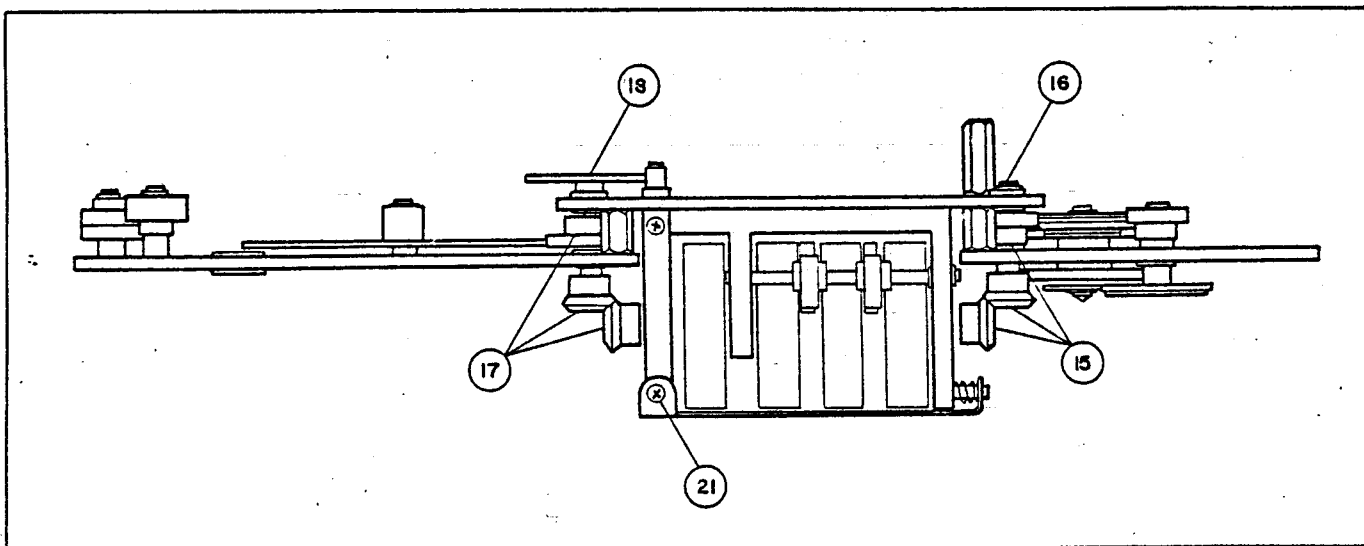

Figure 3-7. R-F and I-F Tuner Assembly, Front Plate, Top View
- a. Loosen six setscrews (item 15, figure 3-7).
- b. Remove shaft (item 16, figure 3-7).
- c. Loosen six setscrews (item 17, figure 3-7).
- d. Remove shaft of cam (item 18, figure 3-7 and 3-9).
### 3-17. REPLACEMENT OF MEGACYCLES FREQUENCY INDICATOR. Refer to figures 3-7, 3-8, and 3-9.